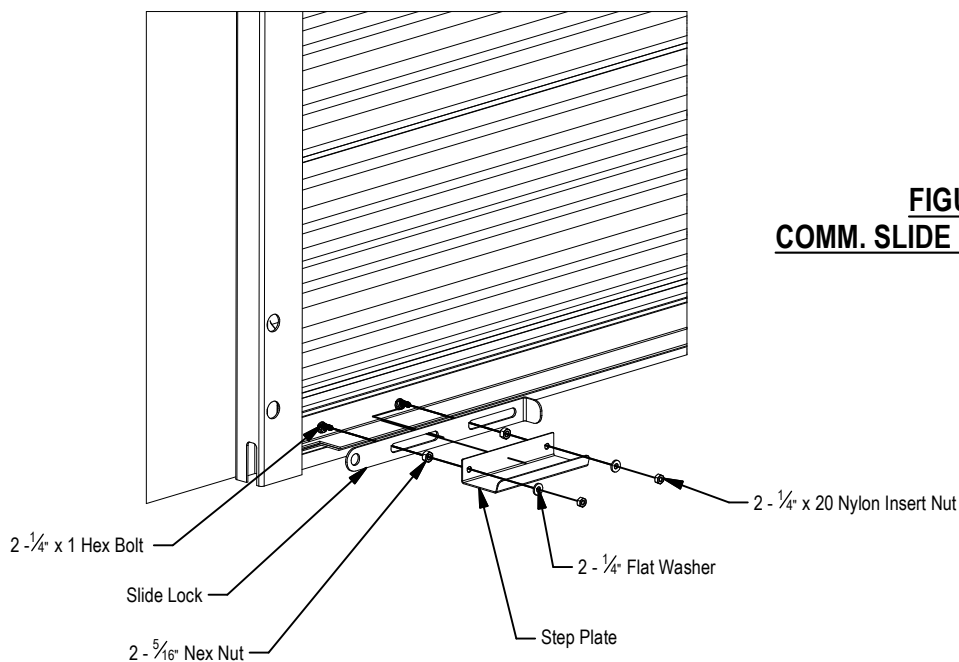

FIGURE 22:
- ▶ Lower bottom bar and install slide lock and step plate using two (2) each $\frac{1}{4}$ - 20 x 1" hex bolts, $\frac{5}{16}$ - 18 hex nuts, $\frac{1}{4}$ " flat washers and $\frac{1}{4}$ - 20 nylon insert hex nuts. Do this at both ends of bottom bar. **See Figure 22.**